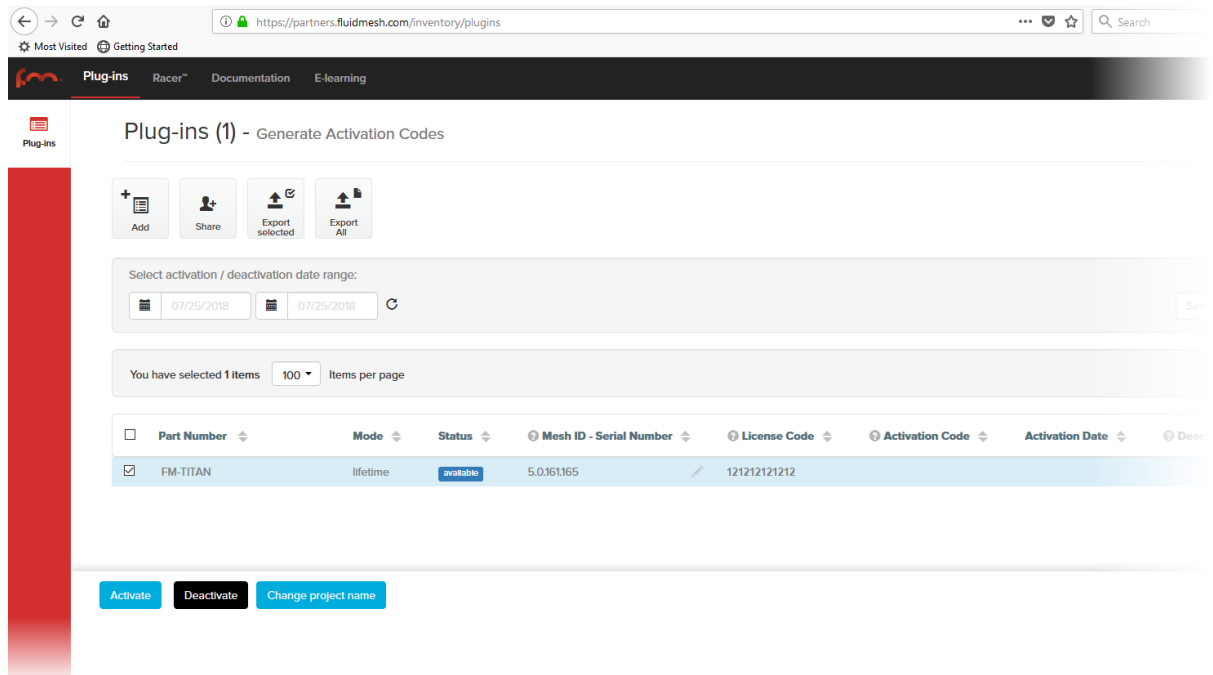

Figure 64. Partner Portal Plug-ins page (License code plug-in)
- When you purchase a generic 16-digit *License code*, the License code and corresponding plug-in will be listed on the Plug-ins page (Figure 64 \(page 150\)).